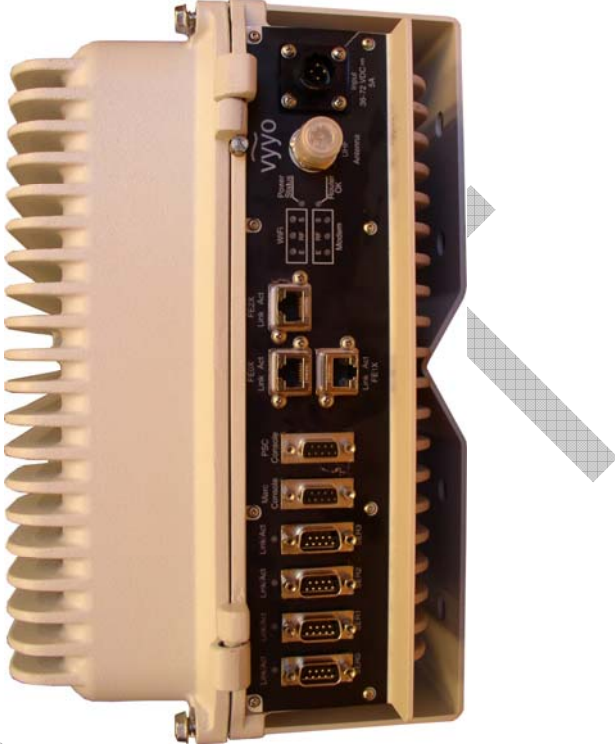

Figure 14: Wall Mounting – Interface Panel Facing the Floor
8. Tighten all four ¼” screws (9).
*The Interface Panel of the V390i can now be accessed from the bottom (see Figure 14).*